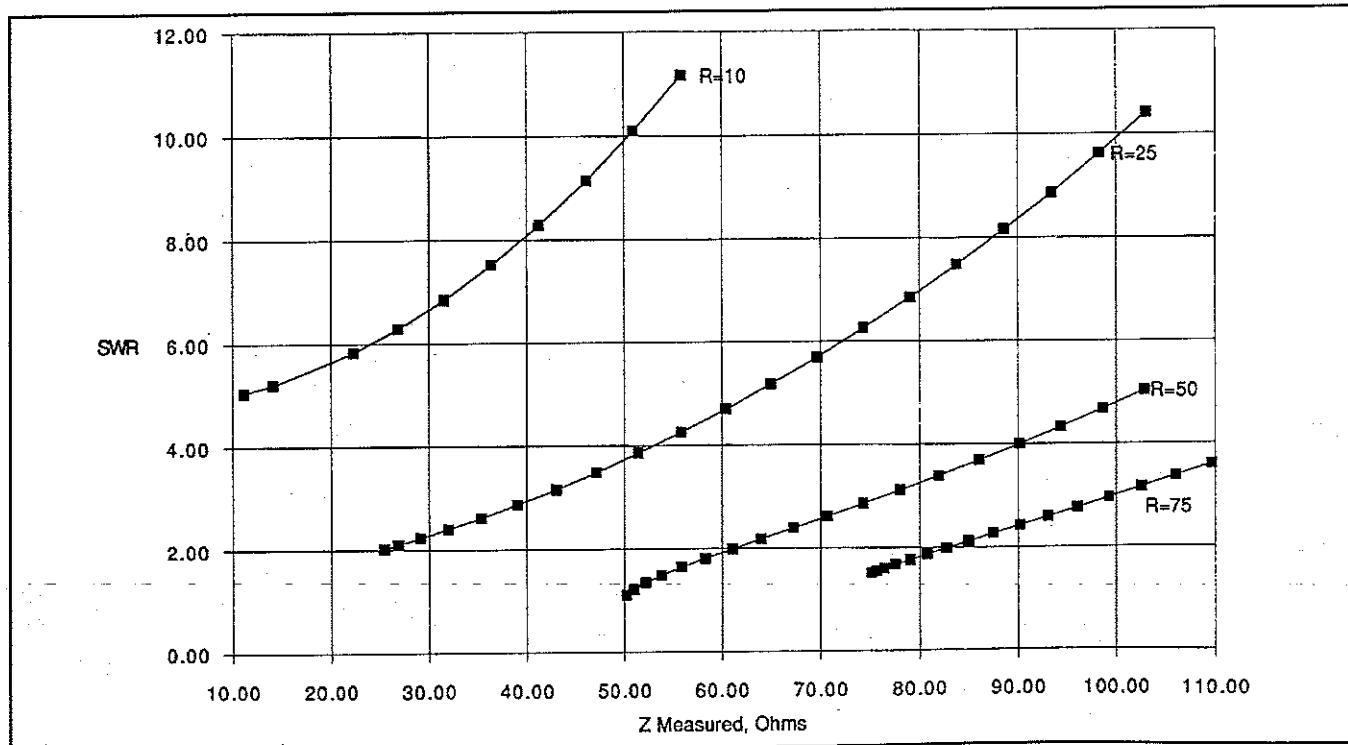
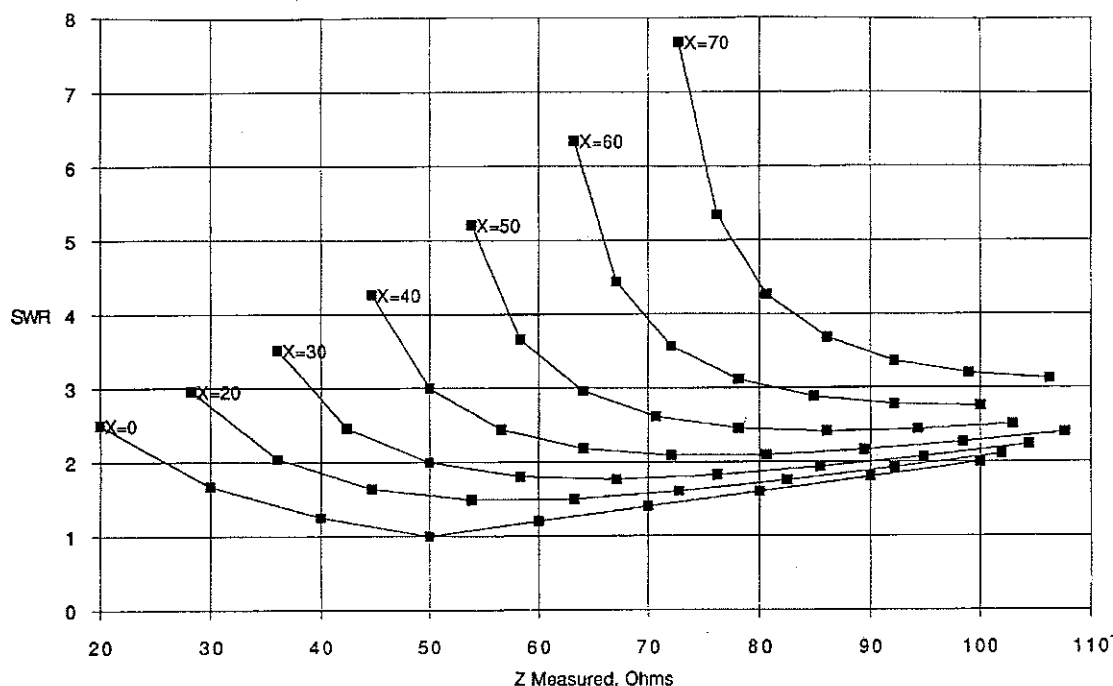

Fig. 1— The relationship among VSWR, Z, and R.
Fig. 2- The relationship among VSWR, Z, and X.
Figs. 1 and 2 were generated using these equations. Fig. 1 is a reference chart to look up resistance values (R) for measured values of SWR and impedance (Z). Fig. 2 provides the magnitude of reactance (X), also for measured values of SWR and impedance (Z).
dipole antenna and measured an SWR of 4:1 and impedance value (Z) of 90 ohms. In fig. 1 lines drawn from 4.00 on the SWR (vertical) axis and 90.00 on the Z (lower) axis intersect on the curve labeled R = 50 ohms. That might sound like a nice match to a 50 ohm coaxial line, but remember that the SWR was measured as 4:1. Next check fig. 2 for the reactive value (X). Lines drawn from 4.00 on the SWR (vertical) axis and 90.00 on the Z (lower) axis intersect outside the X = 70 ohm curve at about 75 ohms, the cause of the high SWR. A matching circuit that cancels the 75 ohm reactive component would create a good match condition to a 50 ohm coaxial transmission line.
The effects of instrument errors can be seen in fig. 2. The lines of constant reactance become close together for values of Z greater than 70 ohms and SWRs around 2:1 and less. For instance, an SWR measurement error of ± 0.1 for a SWR of 2:1, and Z = 90 ohms can result in a reactance error of up to 20 ohms. Likewise, errors in measurement of Z will compound the problem. The good news is that verticals, dipoles, Yagis, etc., typically have resistive and reactive components in the region where the results are not sensitive to measurement errors. As a rule of thumb, you should be cautious of results when they are derived from measurements of large Z at low SWR.